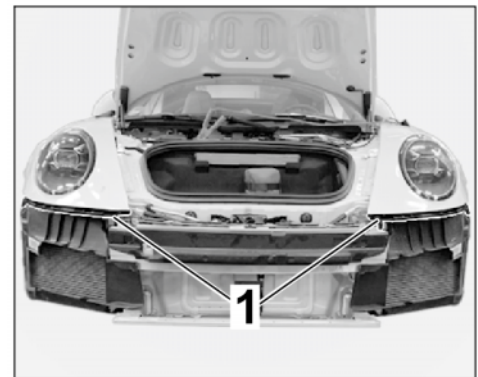

Figure 2
- 1.5 Replace left and right side guides ⇒ *Figure 2 -1-*.